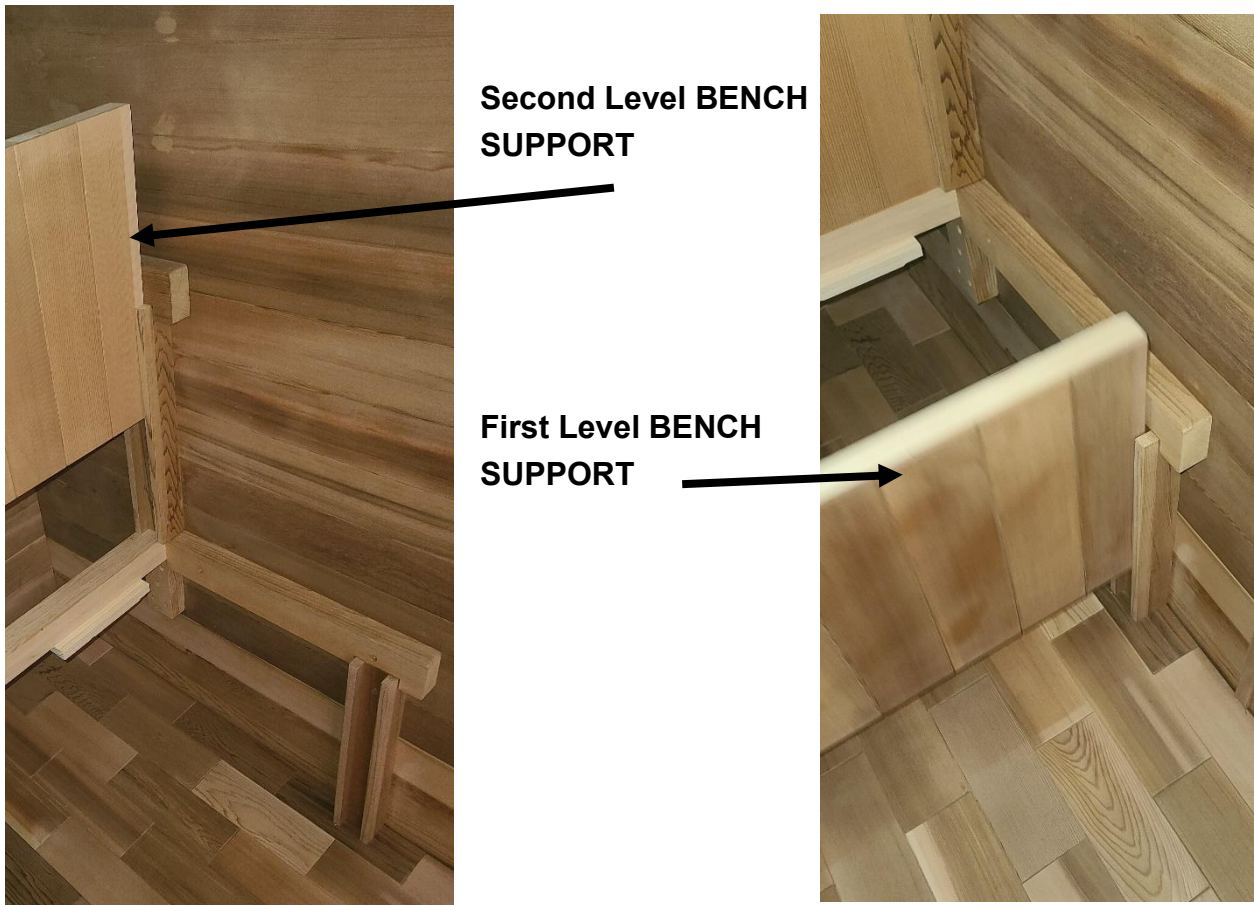

Figure 9
2. Second, you will need to locate the two BENCH SUPPORTS for the first and second level BENCHES (on GDI-8226-01)(GDI-8222-01 & GDI-8223-01 only have the first level BENCH SUPPORT and BENCH). Once located, proceed to slide downward and into the side wall vertical guides See Figure 9 and install the support beam accordingly.